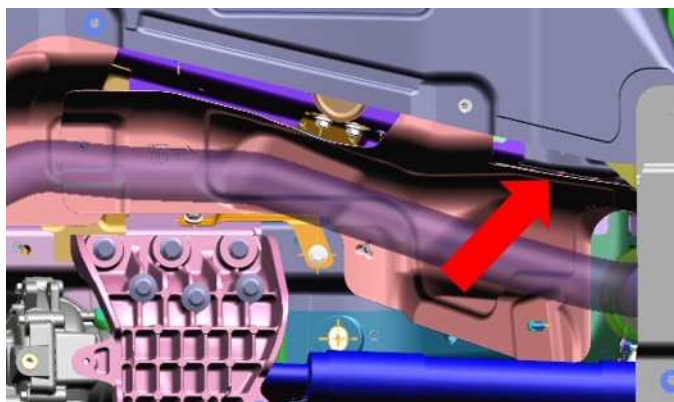

Fig. 8
5. Remove the right front heat shield (Fig. 8) .